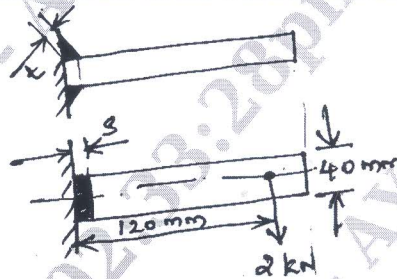

Fig. Q8 (b)
b. A welded joint as shown in Fig. Q8 (b), is subjected to an eccentric load of 2 kN. Find the size of weld, if the maximum shear stress in the weld is 25 MPa. (10 Marks)